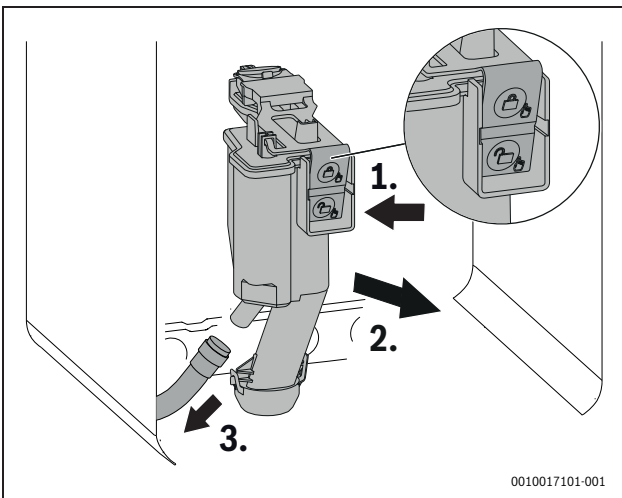

Fig. 96 Removing the condensate trap
- ▶ Remove the condensate trap (→ Fig. 96).